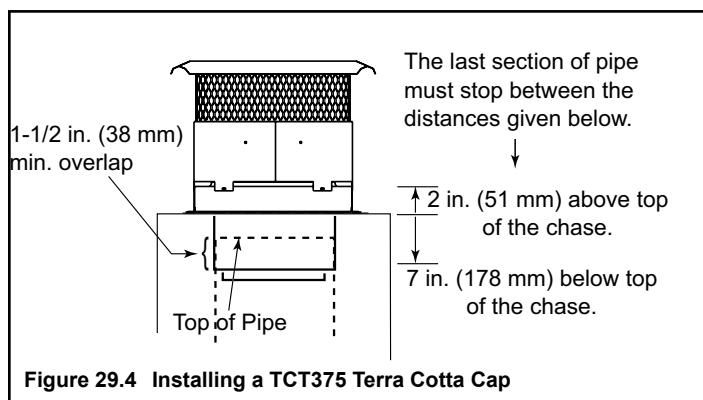

Figure 29.4 Installing a TCT375 Terra Cotta Cap
- For installations utilizing a Terra Cotta Cap the last chimney section must be between 7 in. (178 mm) below the chase top and 2 in. (51 mm) above. See Figure 29.4.